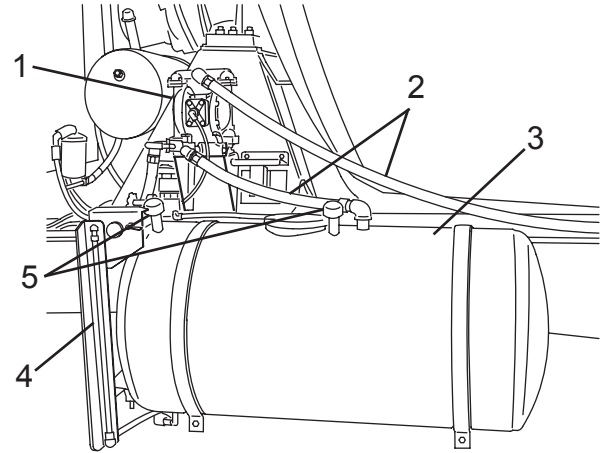

Figure 143
1. Inspect the water tank(s) (Figure 143, Item 3) for leaks, cracks, breaks, or structural damage.
2. Inspect hoses (Figure 143, Item 2) for leaks, cracks, or damage.
3. Inspect sight glass(es) (Figure 143, Item 4) for cracks or damage.
4. Check pump (Figure 143, Item 1) (if equipped) for proper operation.
5. Check breathers (Figure 143, Item 5) (if equipped) to make sure they are free of debris.